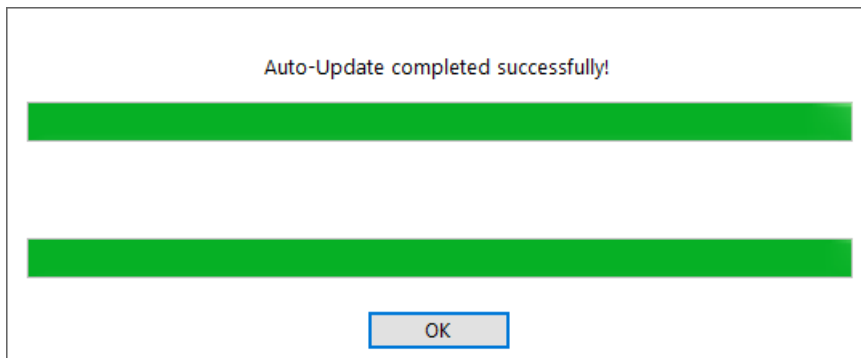
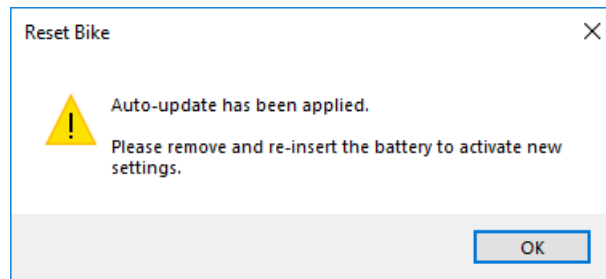

Figure 3.27 Auto-update – Completing an automatic update
Figure 3.28 Auto-update – Bicycle restart
- Auto-update is complete once “motor learning” is complete. Click on “OK” (Fig. 3.27) and then remove (for at least 5 seconds) and reinstall the battery in the bike (Fig. 3.28).